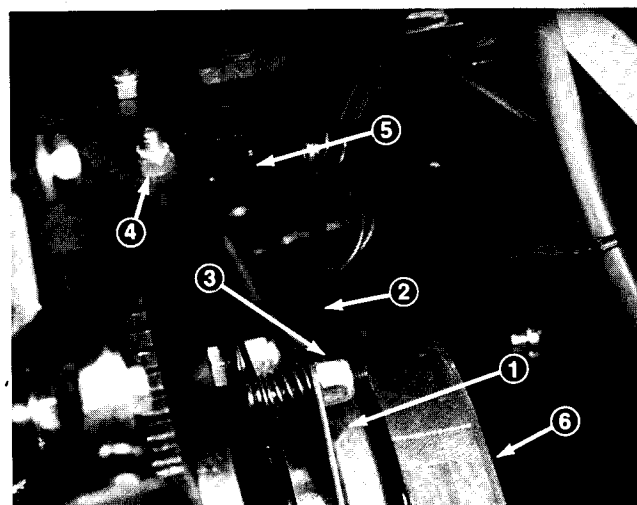

Figure 5
3. Remove the left-hand clutch retainer bracket nut and bolt to remove the rubber bumper (Fig. 5).
5. Rotate the clutch by hand and adjust the air gap in all three (3) locations. After all three (3) air gaps have been set, check all three (3) again. Adjusting one gap can affect the others.